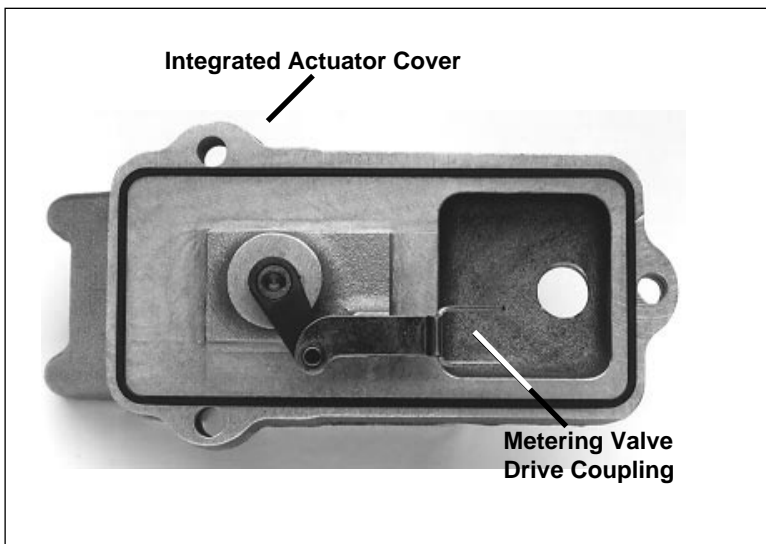

Figure 3
2.1 Align and hold the METERING VALVE DRIVE COUPLING parallel to the side of the INTEGRATED ACTUATOR COVER as shown in *Figure 3*.